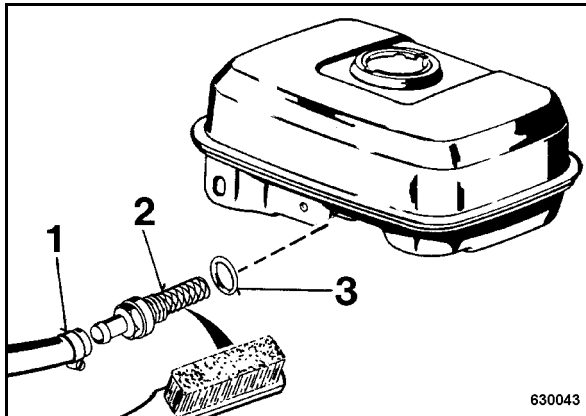

Fig. 56
- Open the hose clamp 1 (Fig. 56), pull off the hose.
- Unscrew fuel screen (2).
*Check seal (3), replace the seal if damaged.*